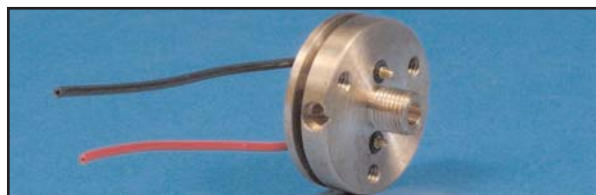

Figure 1: Sleeve-thru Adapter with contact sensor .
1. A customer is using FC or SMA mating sleeve to butt-couple 2 high power multimode fibers terminated with appropriate connectors. A sensor that is installed at the appropriate point in the FC or SMA mating sleeve will be able detect the presence or absence of a connector metal ferrule. Thus, in case an operator unwittingly removes one of the high power fiber patchcords by unscrewing the FC or SMA connector, the sensor signal can be used by the customer to trigger a safety interlock or shut down of the laser. In addition, if a thermocouple or a thermistor has also been installed in the mating sleeve, and there has been some damage to one of the connectorized fiber endfaces that is causing light to reflect into the mating sleeve leading to local temperature rise, the signals from the thermistor or the thermocouple can be used to alert the operator and/or initiate a safety interlock at the laser or laser shut down. Figure 1 shows an SMA sleeve-thru adapter with contact style sensor for fiber connector proving. Figures 2 and 3 show SMA and FC mating sleeves in which both the inductive proximity and temperature sensors have been installed.
- FC and SMA Sleeve-through adaptors (mating sleeves) for multimode fiber to fiber coupling situations- See Figures 1 and 2